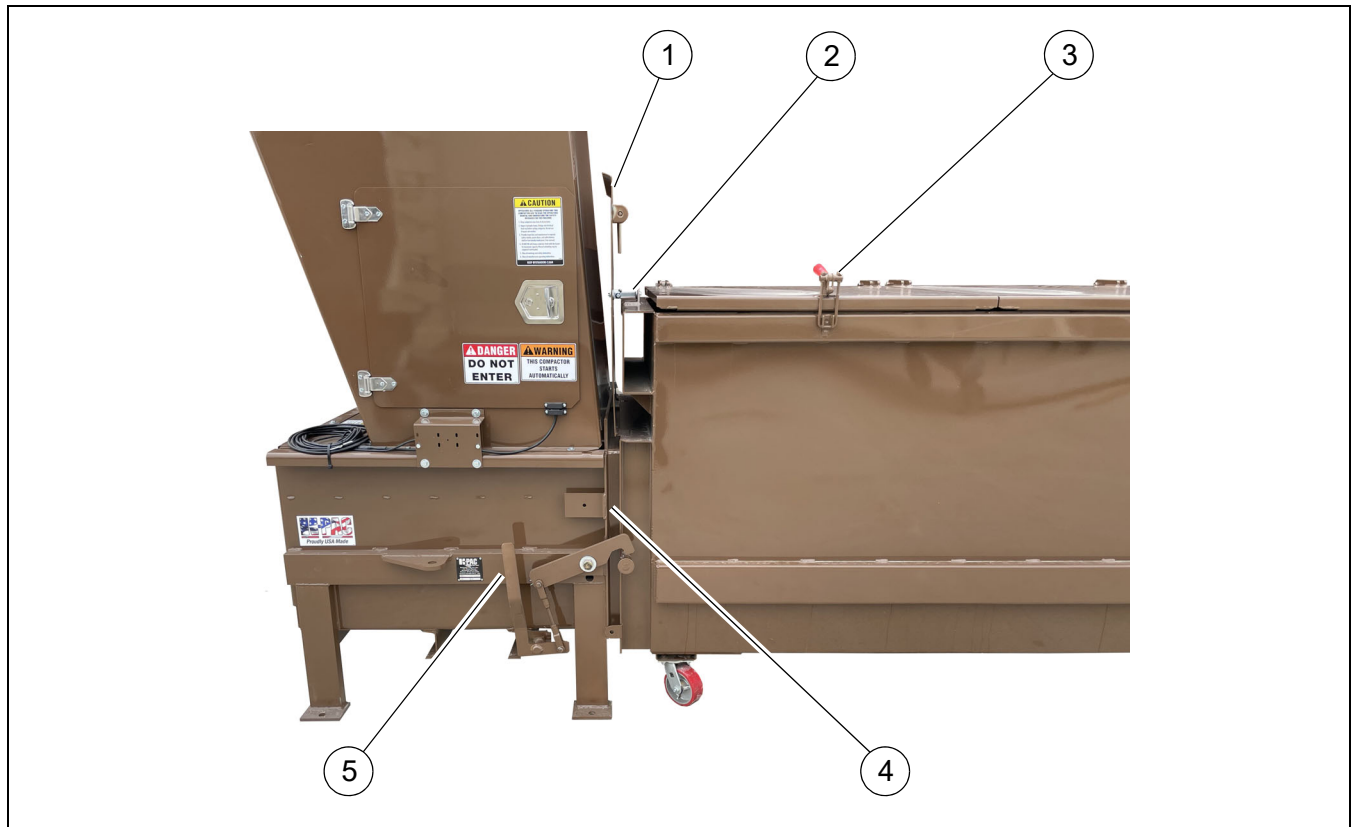

Figure 22
- Release both latches and lift the side door up (**Figure 22, 1**).
- Latch (**Figure 22, 2**) the side door in the open position.
- On both top covers lock the latch (**Figure 22, 3**) to secure them in the closed position.
- Continue to move the container until it is fully seated against the chamber opening (**Figure 22, 4**) on both sides.
- Latch the container to the compactor by rotating the handle (**Figure 22, 5**) down and away from the container until the latches on both sides are locked with the latches on the pins.